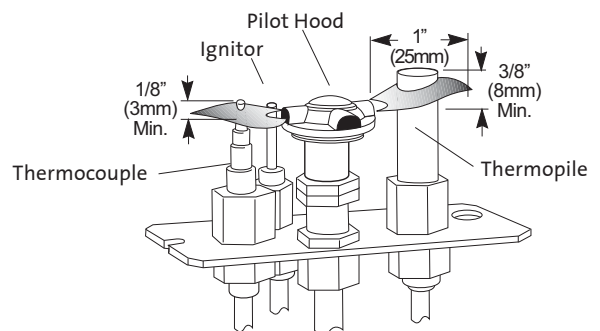

Figure 48 Correct Pilot Flame Pattern
- 2. PILOT FLAME:** The pilot flame should be steady, not lifting or floating. The flame should be blue in color around the pilot hood, with traces of yellow toward the outer edges. It is imperative that the pilot flame engulf the top 3/8" of the thermopile (power generator) and the top 1/8" of the quick drop out thermocouple. The pilot flame should project out of the pilot hood 1" at all three ports. See Figure 48.